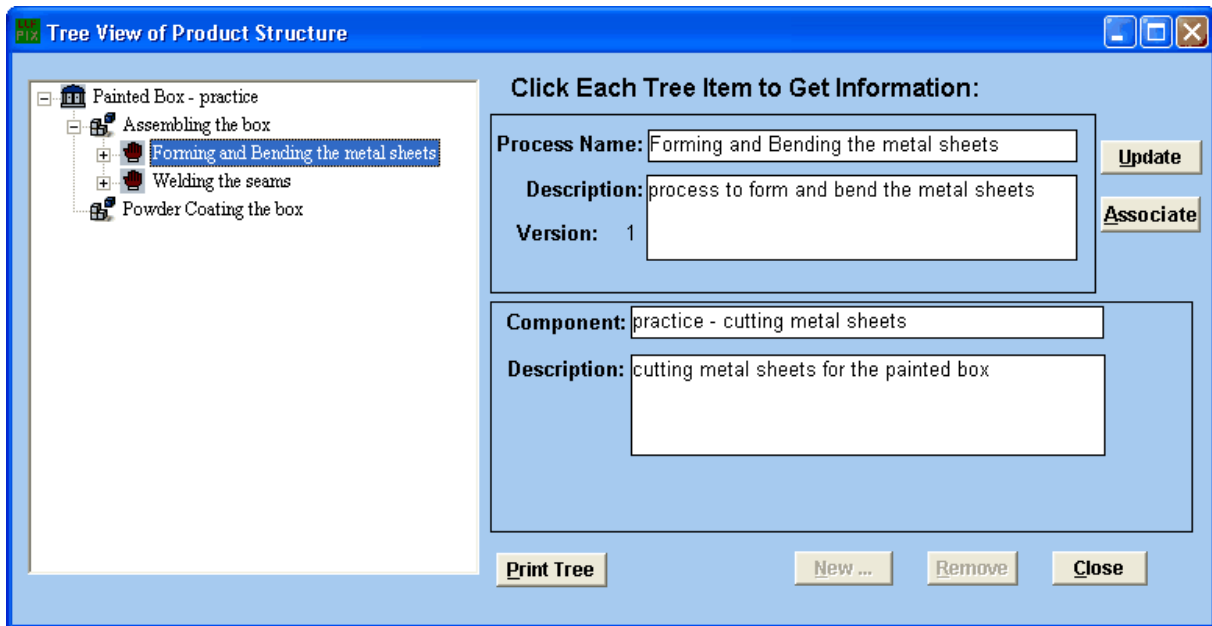

Figure 36: Tree View of the First and Second Level Processes.
- In the *Baseline Process* Window enter the name "Forming & Bending the Metal Sheets", and type in a description and choose **OK**. This will make the earlier grayed out option called **Select** available which allows us to associate Elemental Component Processes with this Baseline Process. We still have not entered the Elemental Component Processes so let us leave this for later. For now Choose OK again and return to the *Tree View of Product Structure* window (Figure 36, listed as a sub process) which will now have the Forming and Bending Metal Sheets.